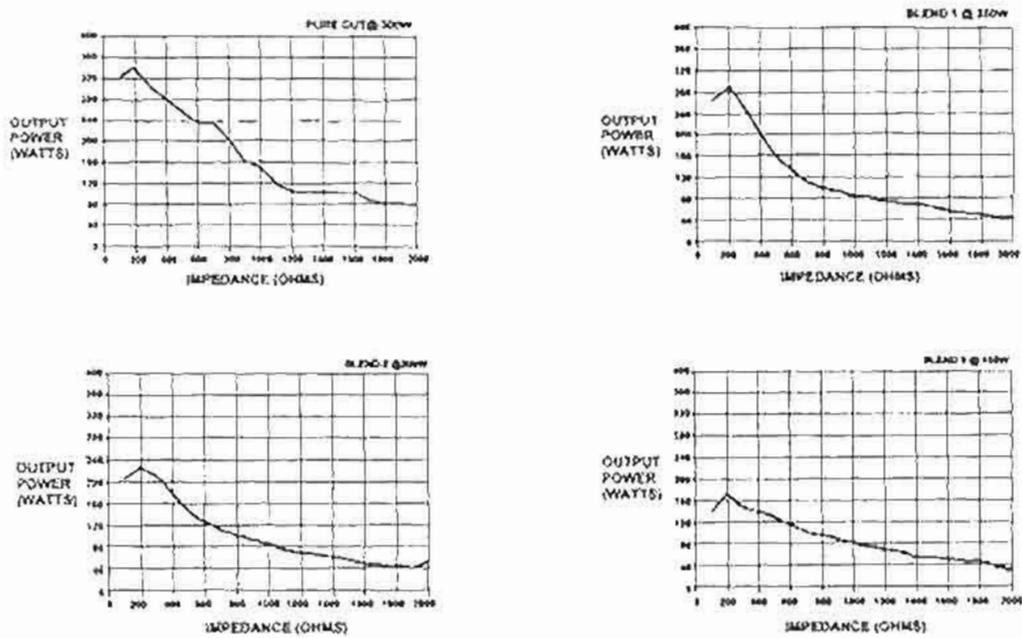
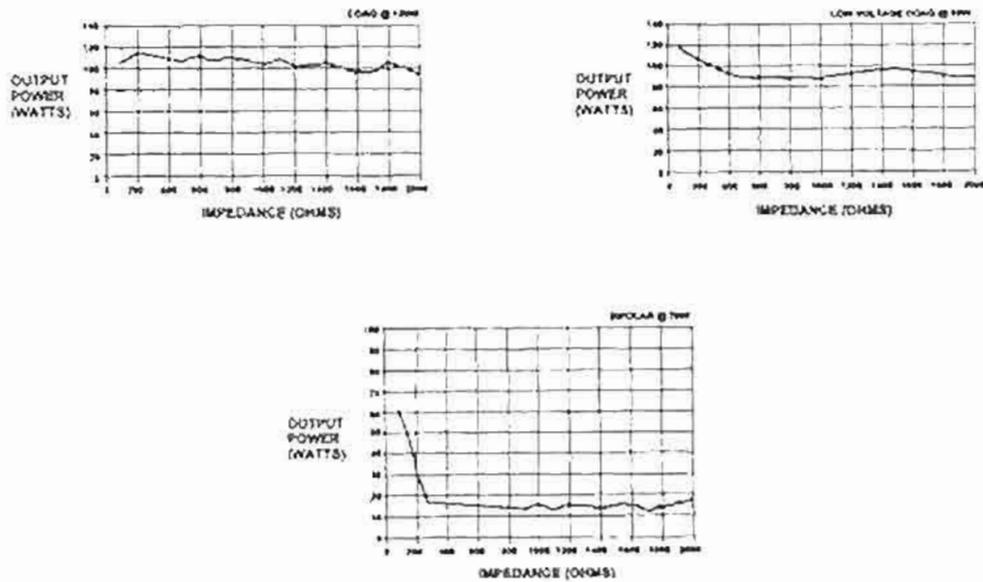

Figure 3-22. CUT waveforms.
Figure 3-23. COAG and bipolar waveforms.
c. The graphs (fig 3-22 and fig 3-23) portray the ES apparatus output power versus impedance for all seven electro-surgical modes.